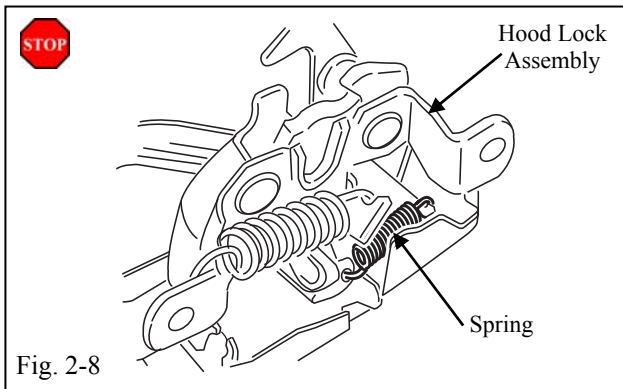

Fig. 2-8
- (i) Reinstall the Spring to the Hood Lock Assembly. (Fig. 2-8)
- (1) Take care not to bend the spring during reinstalling.